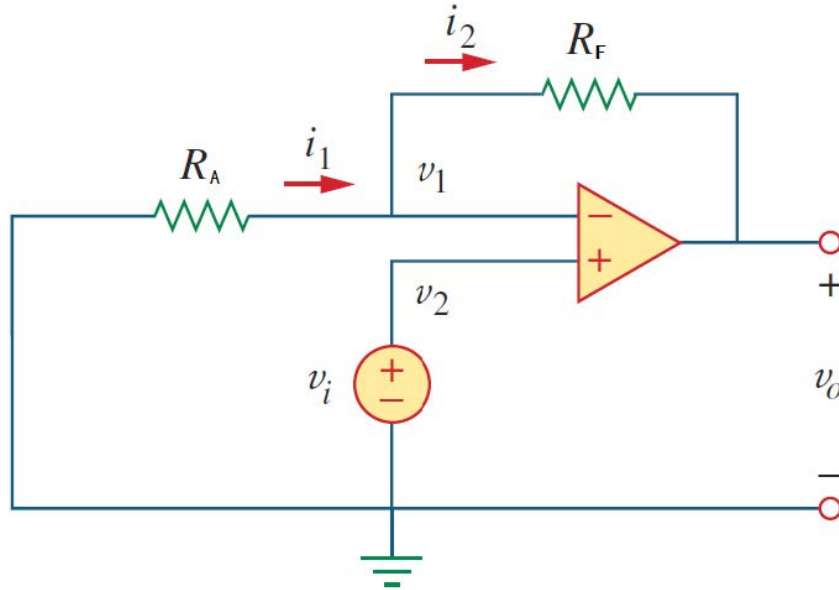

Figure 6. Non-inverting amplifier.
2. Use the function generator to generate a sine wave, and use it as the input voltage (v_i in Figure 6). Set the initial amplitude of the sine wave to 0.1 Vpp. Use the oscilloscope to measure the output voltage (v_o in Figure 6).